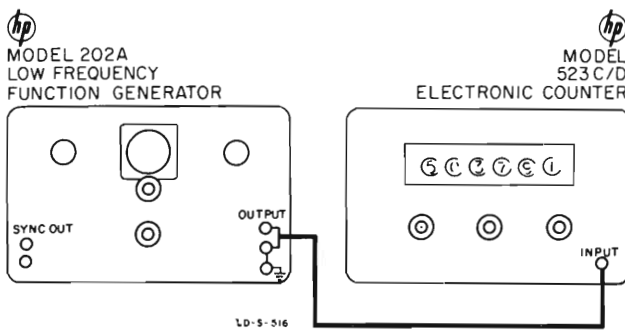

Figure 4-6. Dial Accuracy Test Setup
- 1) Connect test setup as shown in figure 4-6.